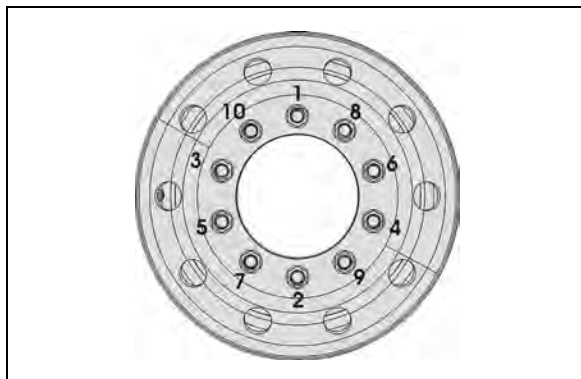

FIGURE 3: TIGHTENING SEQUENCE
It is also important that wheel stud nuts be tightened alternately on opposite sides of the wheel. Refer to Figure 3 for the suggested tightening sequence.
Tighten stud nuts progressively as shown in Figure 3. The final tightening should be done with a torque wrench.
2. Screw in the hex stud nuts (refer to Figure 3 for sequence) so that wheel will position itself concentrically with hub. This is important, otherwise wheel may be eccentric with hub and will not run straight. In this initial step, slightly tighten the nuts to correctly position the wheel;
3. Tighten stud nuts progressively as shown in Figure 3. The final tightening should be done with a torque wrench.
With inner and outer wheels installed, tighten the stud nuts progressively as shown in Figure 3. The final tightening should be done with a torque wrench.
Repeat for each of the 10 "hex stud nuts" according to the tightening sequence in FIGURE 3.
Using a calibrated torque wrench, tighten wheel nuts. Do not use power tools or long bars for tightening. Tighten wheel nuts alternately as shown in FIGURE 3.